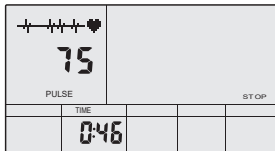

fig 41
- B. Press RECOVERY to enter the pulse recovery test and the computer program will enter the stop status.(See fig 41)